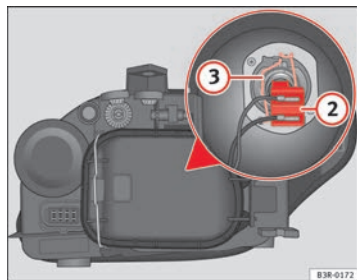

Fig. 199 Dipped head-lights
- Pull the connector ⇒ fig. 199 ② from the bulb.
- Unclip the retainer spring ⇒ fig. 199 ③ pressing inwards to the right.